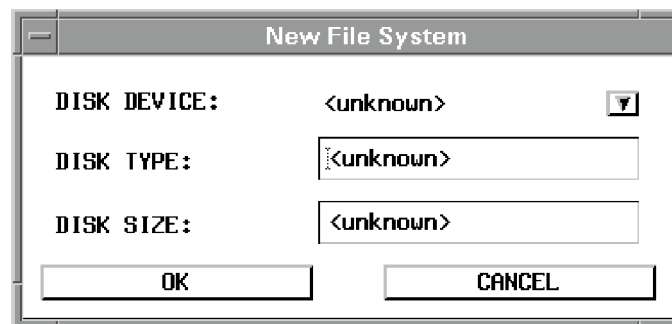

Figure 16. New File System Window
STEP 1: Click on the NEWFS button. The **New File System** window appears (Figure 16).